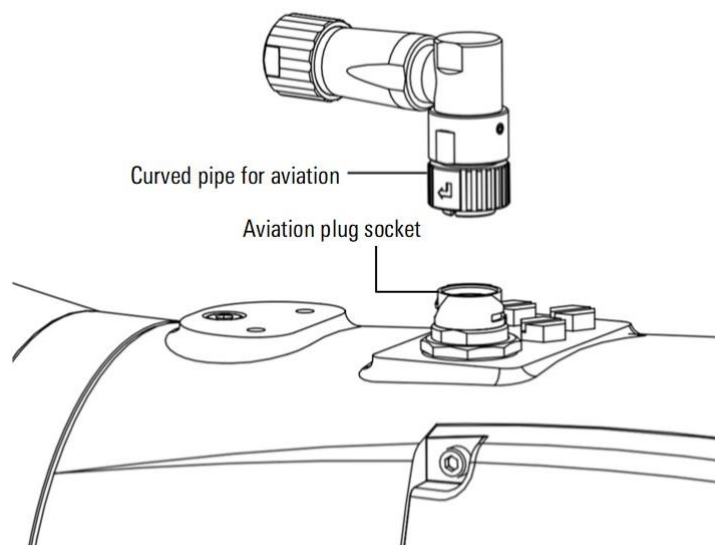

Figure 1-3 Step 2 diagram
Step2. Insert the curved pipe plug into the I/O interface of the forearm of the manipulator (refer to the aviation plug socket in Figure 1-3).